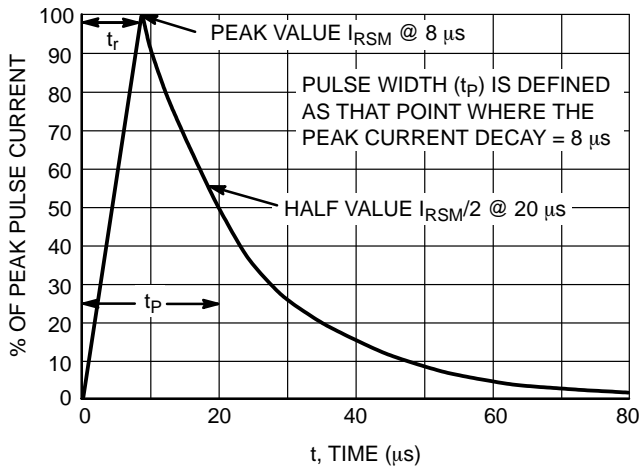

Figure 3. 8 x 20 μs Pulse Waveform
1. Non-repetitive current pulse per Figure 3.
4. $8 \times 20 \mu\text{s}$ pulse waveform per Figure 3.